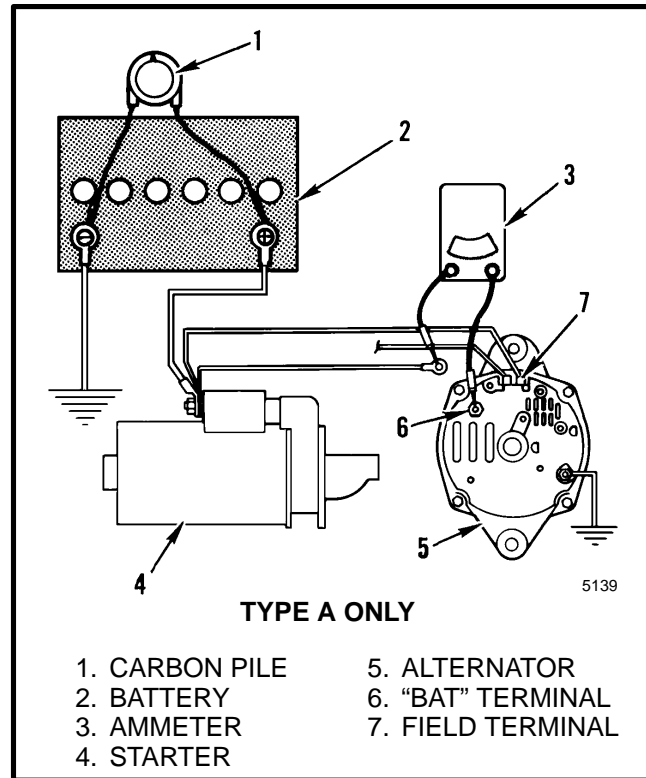
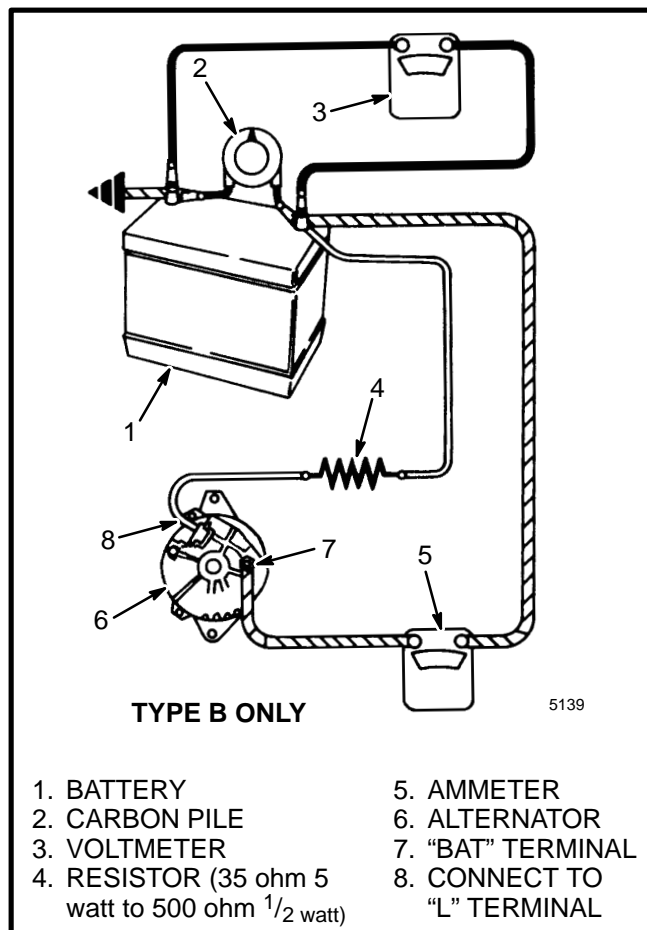

FIGURE 9. CHECK ALTERNATOR OUTPUT
FIGURE 10. CHECK ALTERNATOR OUTPUT
CHECK THE ALTERNATOR FOR LOW OUTPUT (Type A or Type B) (See FIGURE 9. or FIGURE 10.)
5. Make connections to the Type A alternator as shown in FIGURE 9. Make connections to the Type B alternator as shown in FIGURE 10.
CHECK THE ALTERNATOR FOR HIGH OUTPUT (Type A or Type B) **(See FIGURE 9. or FIGURE 10.)**